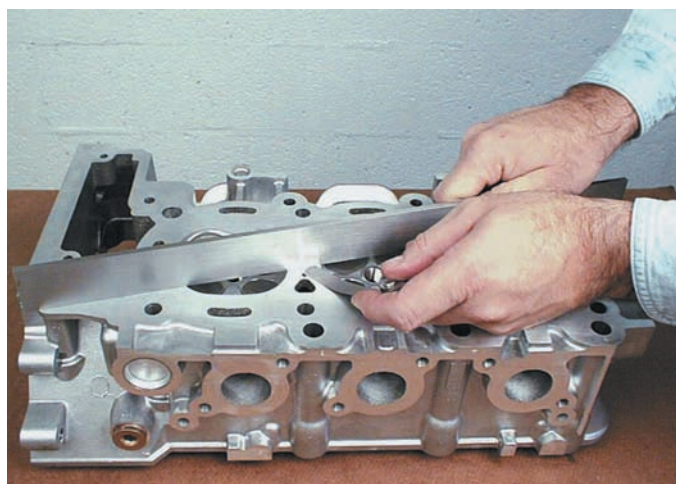

FIGURE 7-18 A straightedge is used with a feeler gauge to determine if a cylinder head is warped or twisted.
- Cylinder heads (● **SEE FIGURE 7-18.**)